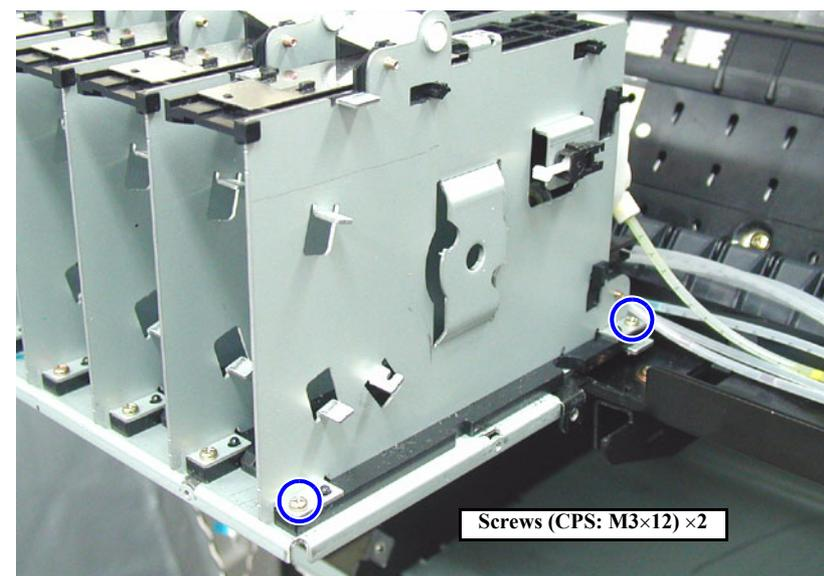

Figure 4-68. Ink Holder ASSY Removal
- Take out the two screws (CPS: M3×12) holding the Ink Holder ASSY to the I/H Base, then remove the Ink Holder ASSY. (See Figure 4-68)